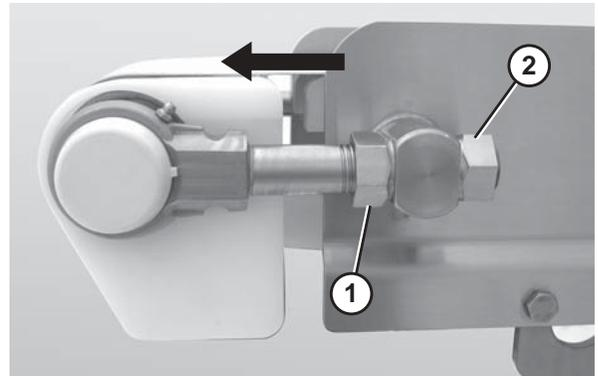

Figure 52
- Turn the front nuts closest to the tail (Figure 52, item 1) clockwise in order to increase tension on the belt.
- Tighten the back nuts (Figure 52, item 2) to secure the tail.
1. Loosen the back nut (**Figure 52, item 2**) on the idler tail shaft that needs to be adjusted.
2. Tighten or loosen the front nut (**Figure 52, item 1**) on the idler tail shaft adjust the belt tracking.